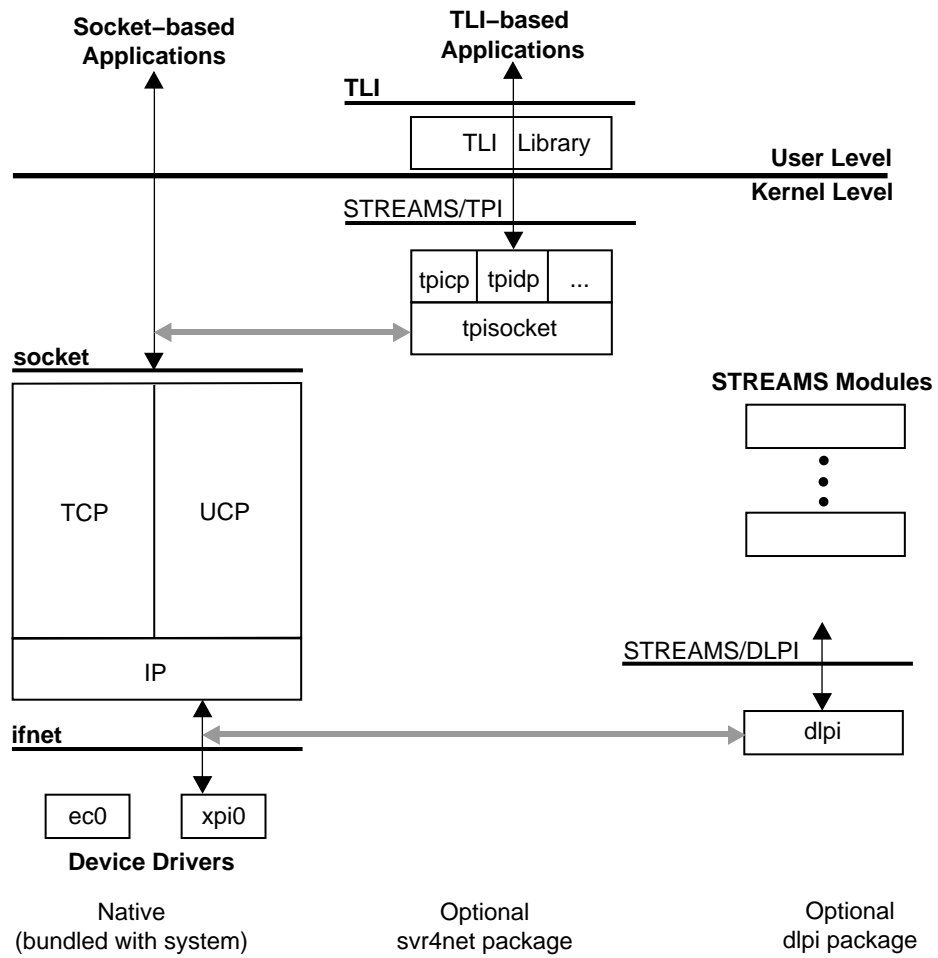

Figure 16-1 Overview of Network Architecture
A network driver is a kernel-level driver module that connects a communications device such as an Ethernet board to the IRIX implementation of TCP/IP. An overview of the IRIX networking subsystem is shown in Figure 16-1.
- using the BSD socket interface (top left of Figure 16-1)
- using the SVR4 TLI interface through compatibility libraries that convert TLI operations into socket operations (top center of Figure 16-1)
- using a STREAMS interface to a STREAMS-based protocol stack (top right of Figure 16-1)
A *protocol stack* is the software subsystem that manages data traffic according to the rules of a particular communications protocol. There are two ways in which a protocol stack can be integrated into the IRIX kernel. The TCP/IP stack creates and uses the *ifnet* interface to drivers (bottom left of Figure 16-1) and the socket interface to applications (top left of Figure 16-1).
Alternatively, a stack written to the DLPI architecture can communicate with STREAMS drivers (bottom right of Figure 16-1).